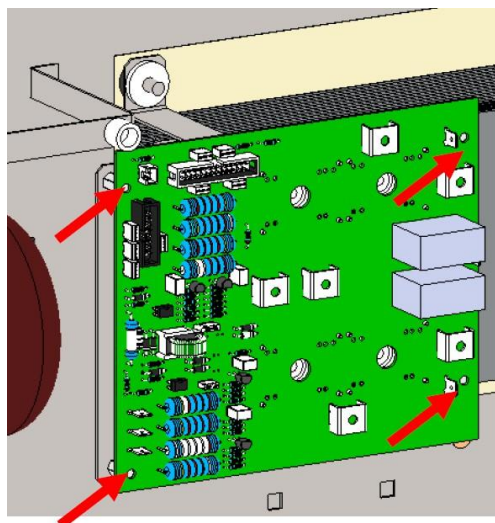

Fig. 71
- 3) Remove the 4 lateral screws and then remove the board (refer to Fig. 71)